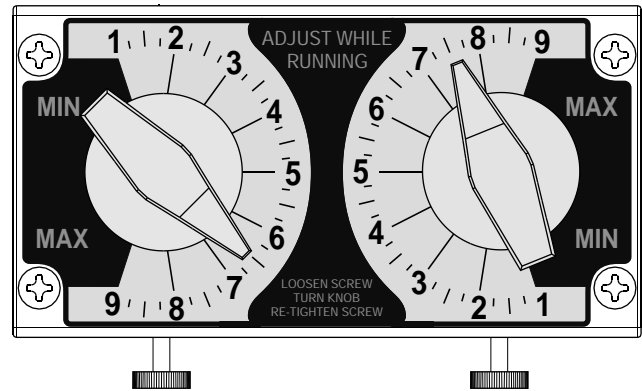

FIG. 5.1
**5.1 Adjusting the Pump Output- Standard models (fig. 5.1)** - The C-1700N flow rate(s) can be adjusted within a range of 5% -100% of maximum output (20:1 turndown ratio) by means of two mechanical, cam type mechanisms. The mechanism adjusts the pump's stroke length to an infinite number of settings within the flow range. Because the pump's output is reduced by increasing the pressure of the system being injected into, the amount of suction lift, and the viscosity of the fluid being injected, the pump must be over-sized to allow for these factors. Sizing the pump to allow adjustment within the midrange is preferred to maintain accuracy. Consult the factory for individual pump model output curve data.